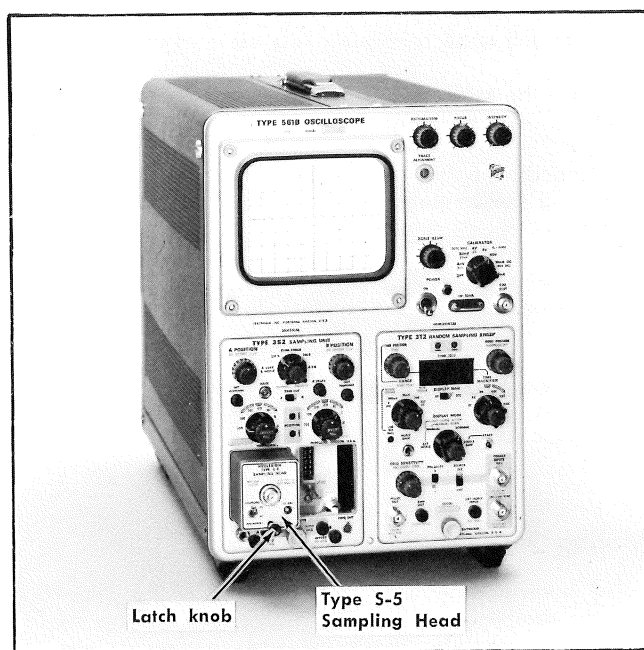

Fig. 2-1. Installation information.
Fig. 2-1 shows the Type S-5 partially installed into a Type 3S2 Sampling Unit with Type 561B Oscilloscope and Type 3T2 Random Sampling Sweep. The sampling head (or heads) can be plugged into the sampling unit as shown, or used remotely on a special extender cable.
1. Pull the latch knob (Fig. 2-1) outward from the front panel (the latch knob will push out normally when the unit is inserted if the knob is left free to move).